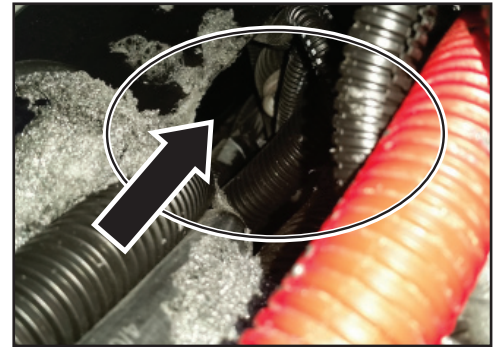

Figure B-6
8. Relocate the affected connector(s) through the opening to the inside of the Battery Control Center compartment. See Figure B-6.